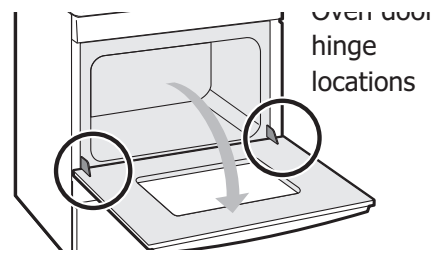

Figure 48: Door hinge location
1. Open oven door completely, horizontal with floor (See Figure 48).
3. Fully open the oven door, horizontal with floor (See Figure 48).